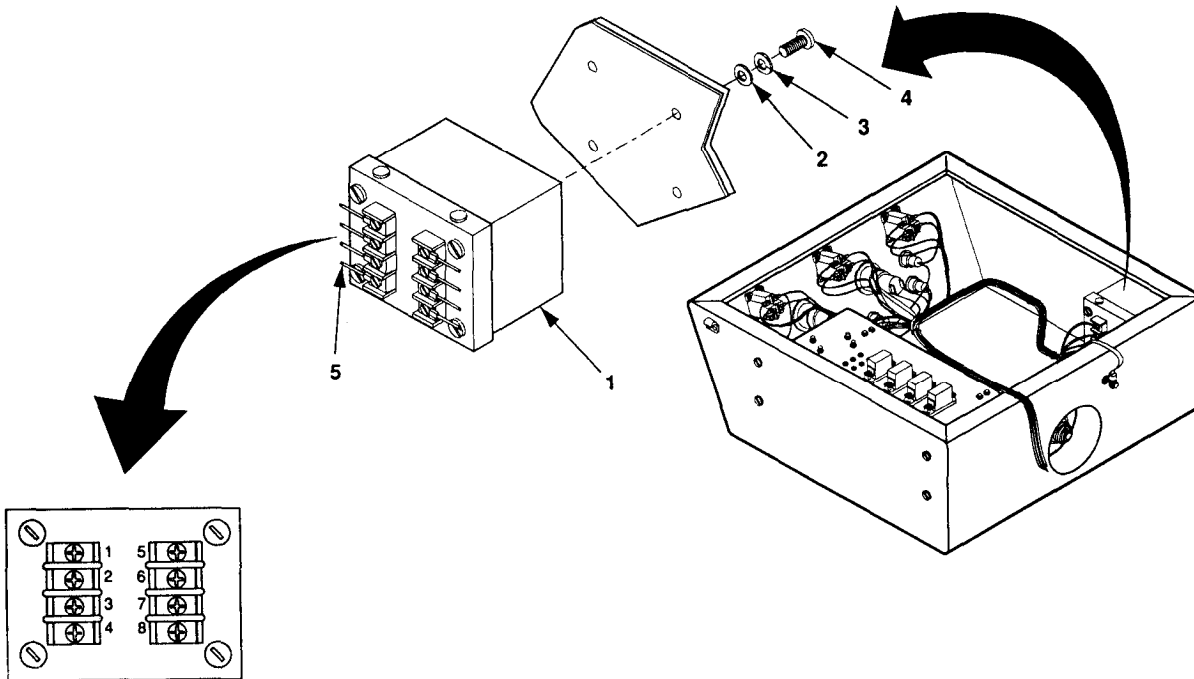

Figure 5-17. Permissive Paralleling Relay.
Tag and disconnect leads (5, figure 5-17). Remove four screws (4), lock washers (3), flat washers (2), and permissive paralleling relay (1).
1. Perform removal procedure above and position permissive paralleling relay (1) on work surface. Connect a variable AC voltage, 50-420 Hz, power oscillator across terminals 1 and 2.